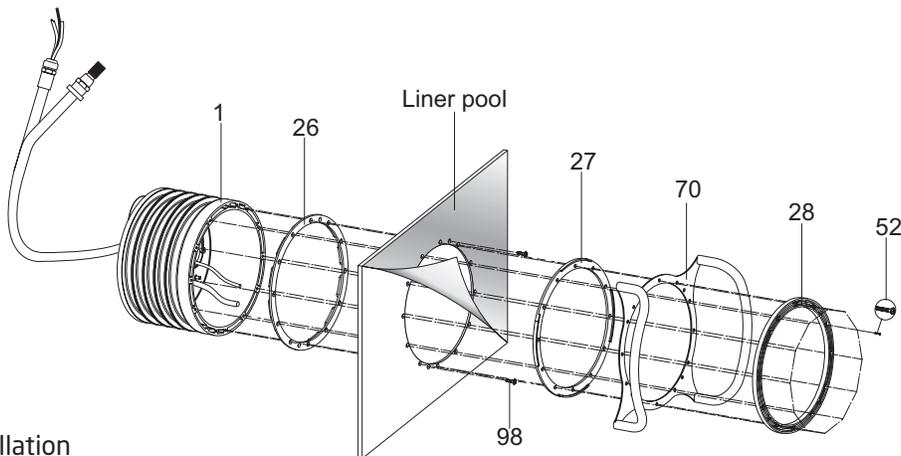
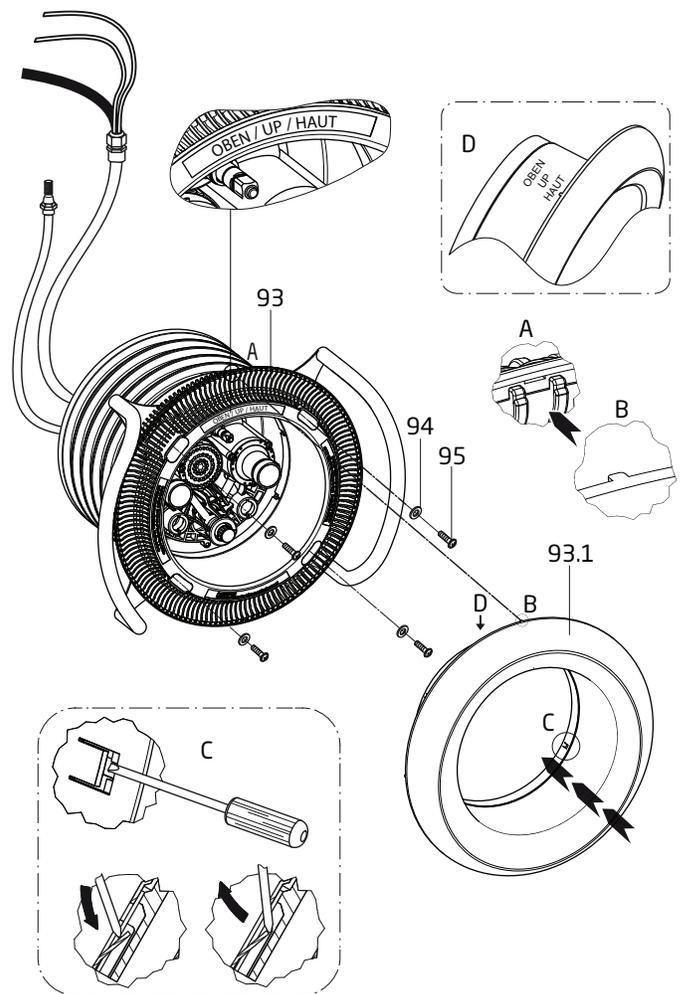

Figure 14
Figure 21
4. Slide one (1) o-ring (part# 37) onto each push button. Insert the two (2) LED push buttons into the nozzle housing and lock them by turning them clockwise until they "click" into place.
5. Feed cables for both LED push buttons and LED light through the protective conduit as shown in Figure 14. Allow enough cable to reach the control box. Excess can be trimmed upon installation. Mark the end of each button cable with a marker (P = Pump & L = Light).
7. Align the complete nozzle housing inside the main jet housing and tighten the ten (10) pre-assembled tapping screws. All screws should be **HAND TIGHT. DO NOT** use drills or pneumatic tools. **DO NOT** over tighten!
8. Place the anti-entrapment suction cover (part# 93) against the clamping ring (part# 28) and fasten with four (4) M8 washers (part# 94) and four (4) M8 x 20 suction cover screws (part# 95). All screws should be **HAND TIGHT. DO NOT** use drills or pneumatic tools. **DO NOT** over tighten! Make sure the UP label is in the correct position (See Figure 21).
9. Align the stainless steel cover (part# 93.1) with its mounting tabs to the existing notches of the anti-entrapment suction cover (part# 93). Observe the UP marking on the stainless steel cover. To fasten the cover use a screwdriver to bend the two (2) offset tabs outwards towards the suction housing notches. (See Figure 21)